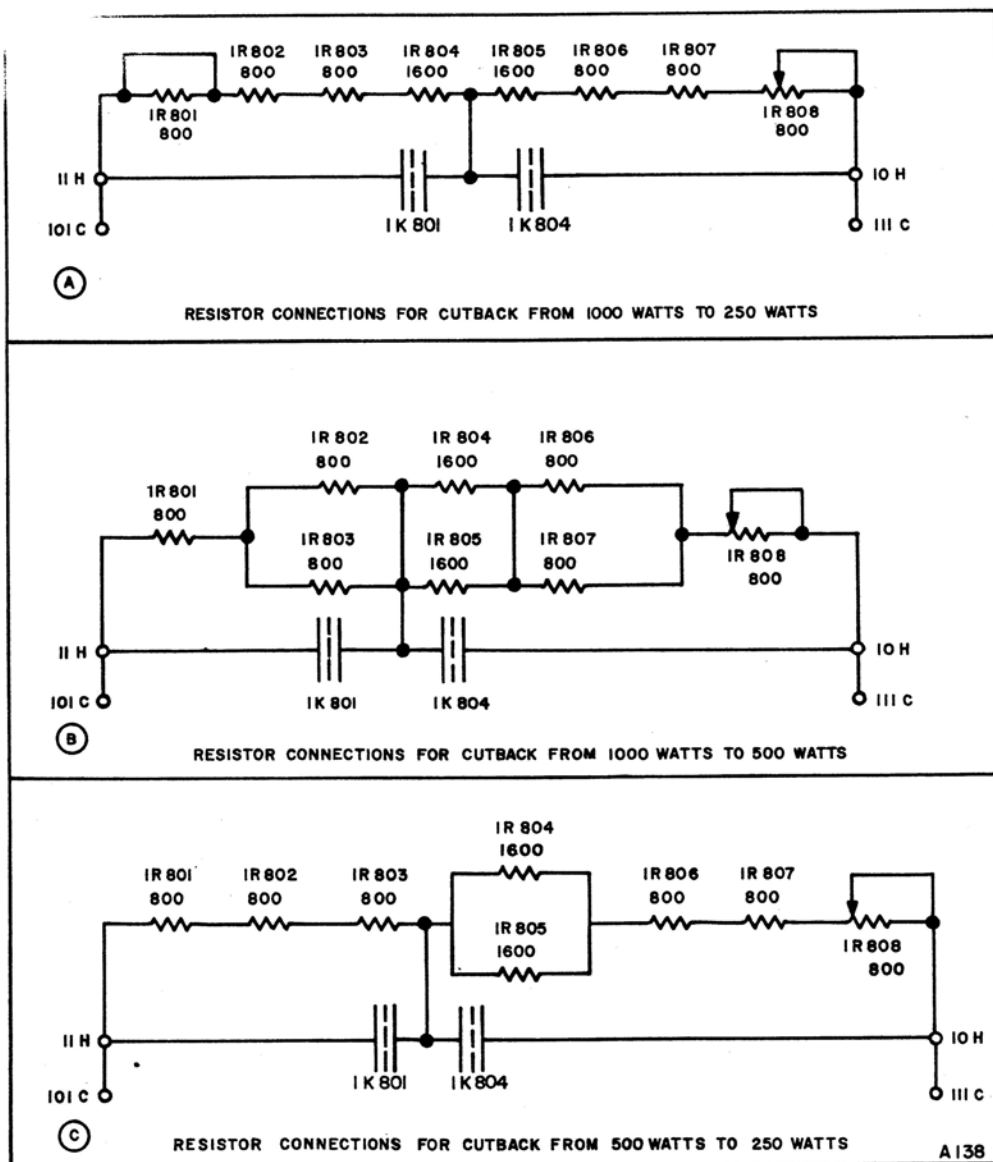

Figure 3. Power Cutback Circuit Connection Details
The cutback resistors whether factory installed or furnished in the optional kit form are connected in series for 250-watt reduced power operation, as shown in figure 3(A). In those cases where nominal operation of the transmitter is at 1000 watts with reduced power rated at 500 watts, the series-parallel resistor combination shown in figure 3(B) must be followed. If normal operation of the transmitter is at 500 watts rated power, the cutback resistors must be reconnected according to the series-parallel combinations shown in figure 3(C).